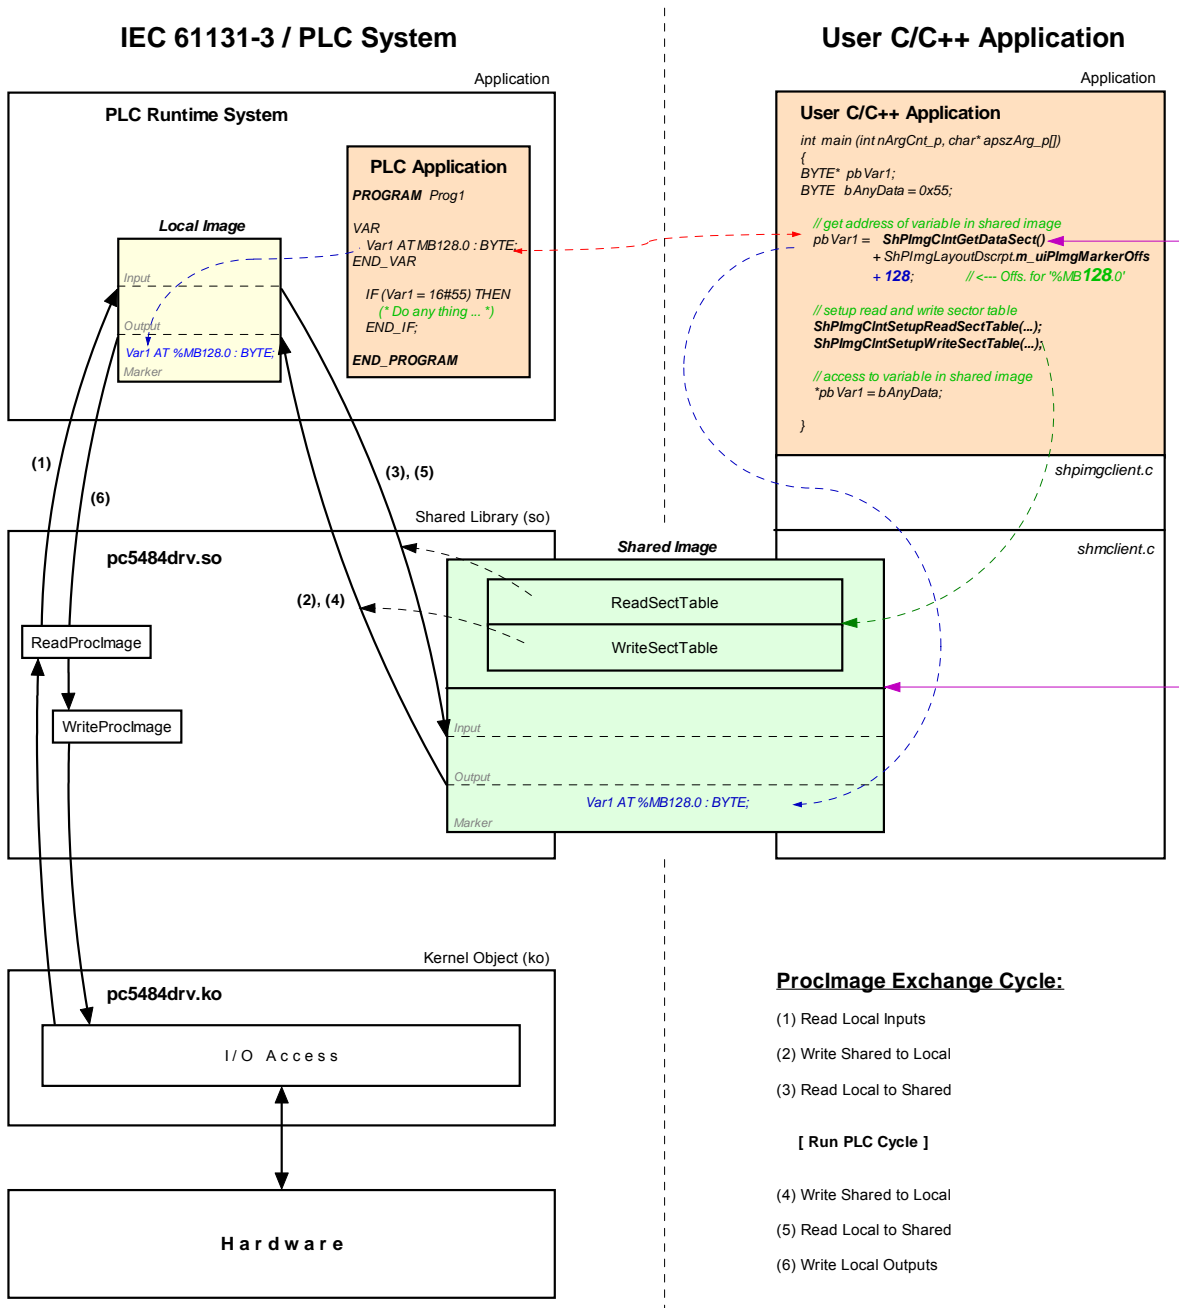

Figure 28: Overview of the shared process image
Not all variables are utilizable via the shared process image within a C/C++ application. Only those directly addressed variables that the PLC program generates within the process image. As shown in Figure 28, two separate process images are used for the data exchange with an external application inside of the PLC runtime system. This is necessary to meet the IEC 61131-3 requirement that the initial PLC process image may not be modified during the entire execution of one PLC program cycle. Thereby, the PLC program always operates with the internal process image that is locally generated within the PLC runtime system ("Local Image" in Figure 28). This is integrated within the PLC runtime system and is protected against direct accesses from the outside. On the contrary, the user-specific, external C/C++ application always uses the shared process image ("Shared Image" in Figure 28). This separation of two process images enables isolation between accesses to the PLC program and the external application. Those two in parallel and independently running processes now must only be synchronized for a short period of time to copy the process data.
An activation of option **"Share PLC process image"** within the PLC configuration enables data exchange with external applications (see section 7.4.1). Alternatively, entry *"EnableSharing="* can directly be set within section *"[Proclmg]"* of the configuration file *"/home/plc/plccore-5484.cfg"* (see section 7.4.3). The appropriate configuration setting is evaluated upon start of the PLC firmware. By activating option **"Share PLC process image"**, the PLC firmware creates a second process image as Shared Memory ("Shared Image" in Figure 28). Its task is to exchange data with external applications. Hereby, the PLC firmware functions as Server and the external, user-specific C/C++ application functions as Client.
Sections to read and write may comprise all sections of the entire process image – input, output as well as marker sections. This allows for example that a Client application writes data into the input section of the PLC process image and reads data from the output section. Figure 28 shows the sequence of single read and write operations. Prior to the execution of a PLC program cycle, the physical inputs are imported into the local process image of the PLC (1). Afterwards, all sections defined in *WriteSectorTable* are taken over from the shared process image into the local process image (2). By following this sequence, a Client application for example is able to overwrite the value of a physical input. This may be used for simulation purposes as well as for setting input data to constant values (*"Forcen"*). Similarly, prior to writing the process image onto the physical outputs (6), sections defined in *WriteSectorTable* are taken over from the shared process image into the local process image. (4). Thus, a Client application is able to overwrite output information generated by the PLC program.
As illustrated in Figure 28, the user-specific C/C++ application exclusively uses the API (Application Programming Interface) provided by the *shared process image client*. This API is declared in the